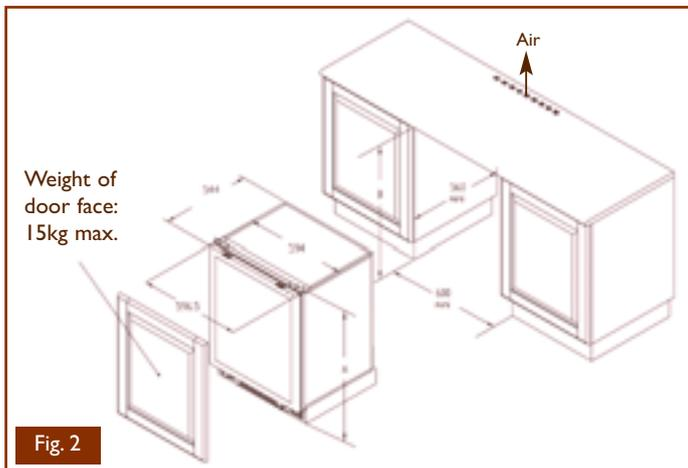

Fig. 2
- Dimensions to be observed for an optional technical door (Fig.2):